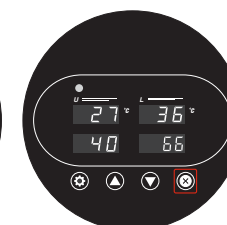

Fig. 12
4. Short Press the  button on the control panel(Fig.12), the machine will open automatically, function like a quick release button.